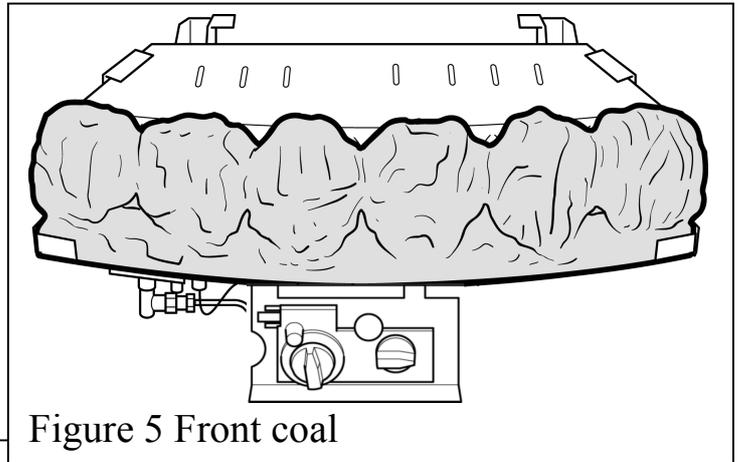

Figure 5 Front coal
1. Position the front coal in front of the burner as shown in figure 5. The front coal should fit snugly between the burner and the two raised tabs on the front edge of the tray.